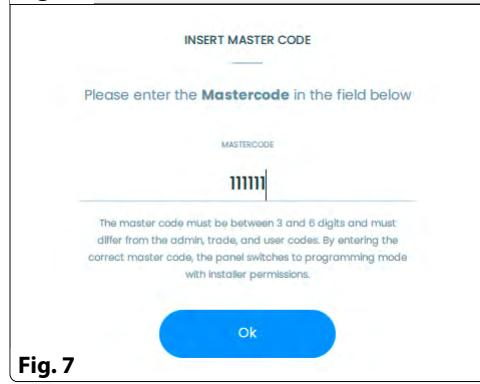
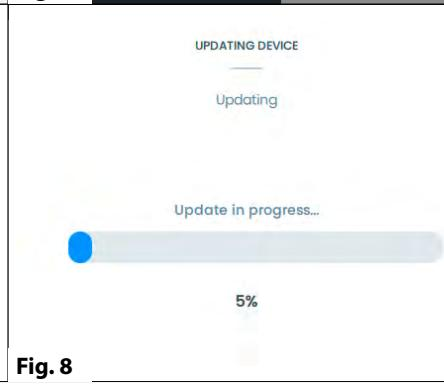

Fig. 7
Fig. 8
6. When requested, enter the Master code. The upload procedure will begin (Fig. 7 and Fig. 8)